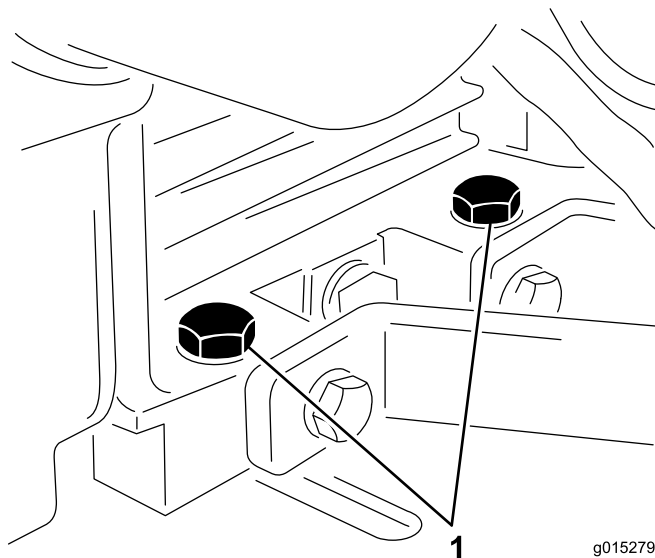

Figure 21
1. Loosen the engine mounting bolts (Figure 21).